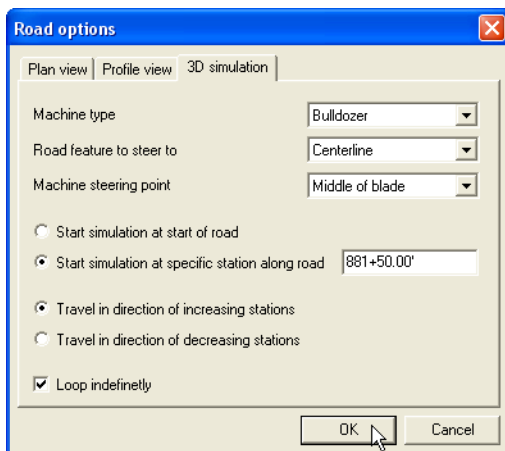

Figure 6-45. Set 3D Simulation View Options
4. Click the *3D simulation* tab and select the desired parameters for wire frame simulations (Figure 6-45 on page 6-40).